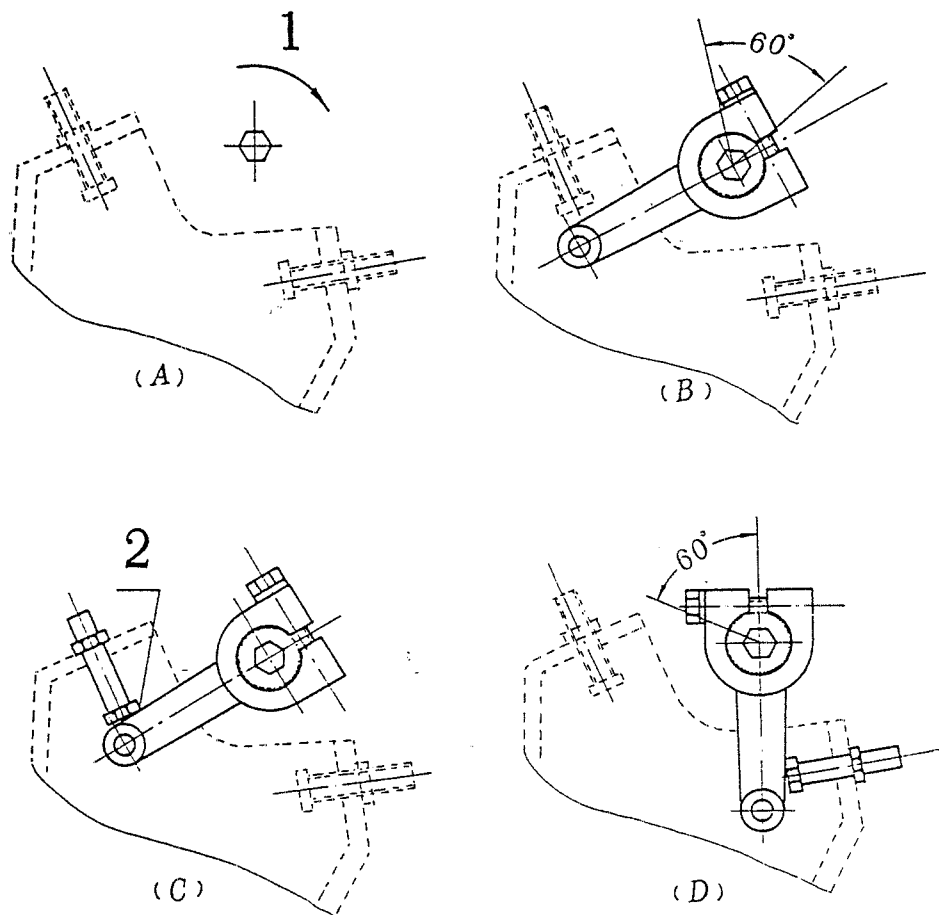

Fig. 9 The Mounting Order of the Rocker of Speed Regulator
(1) The speed regulator mounting.
(2) The speed regulator adjusting.
A. Turn the control shaft of the speed regulator to the high pitch limit position (facing the speed regulator, turn it fully clockwise to the end). Then turn back 60° (Fig. 9, A,B).
C. Make the rocker with spline lean against the high limiting screw tightly and engage with the control shaft of the speed regulator (Fig. 9 C).
- D. Turn the rocker with spline 60° counter-clockwise. Then adjust the low pitch limiting screw and make it press against the rocker (Fig. 9 D).